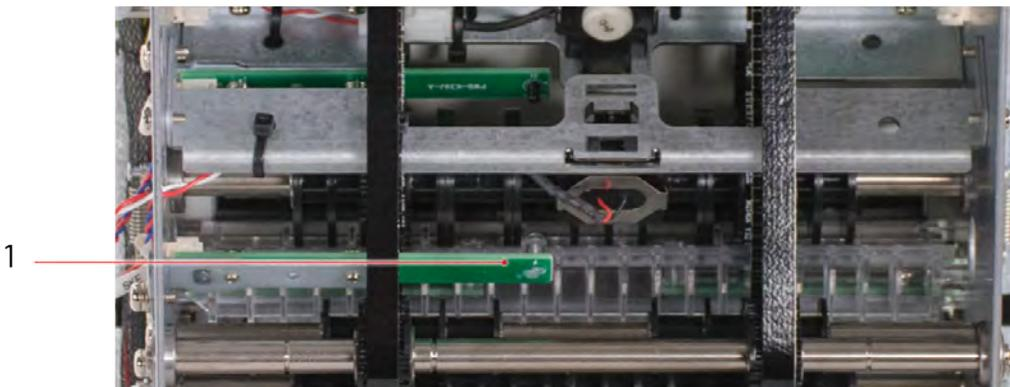

Figure 3. HCDU Sensor in the back of unit
13. The first sensor is located on the rear of the bill dispenser. Clean with canned air or cotton swab. See Fig. 3.